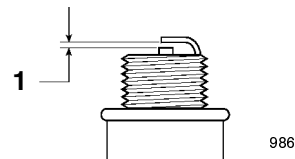

Figure 31
5. Set the gap on the new plug to 0.030 in. (0.76 mm) (Fig. 31).